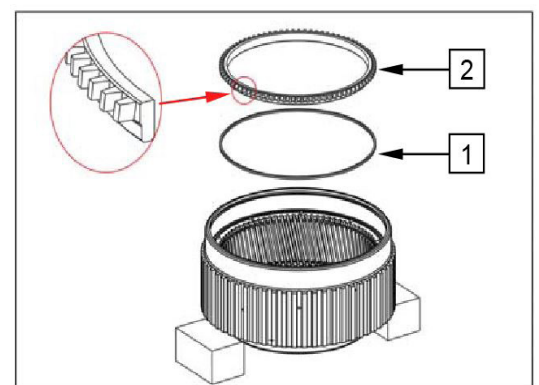

Figure 675
**Installation position of thrust ring. See Figure 675!**